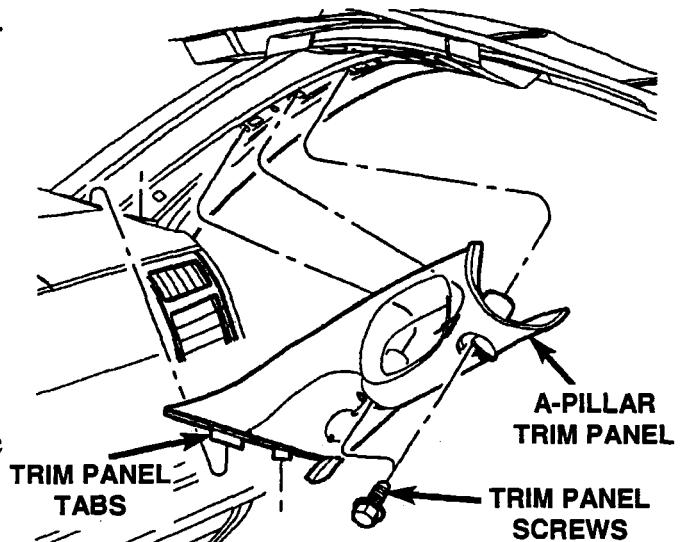

Figure 1
4. Carefully pry open the two (2) fastener covers on the right A-pillar (Figure 1).
5. Remove the two (2) bolts that secure the A-pillar trim panel to the A-pillar and remove the trim panel (Figure 1).
6. Carefully pry open the two (2) fastener covers on the left A-pillar (Figure 1).
7. Remove the two (2) bolts that secure the A-pillar trim panel to the A-pillar and remove the trim panel (Figure 1).